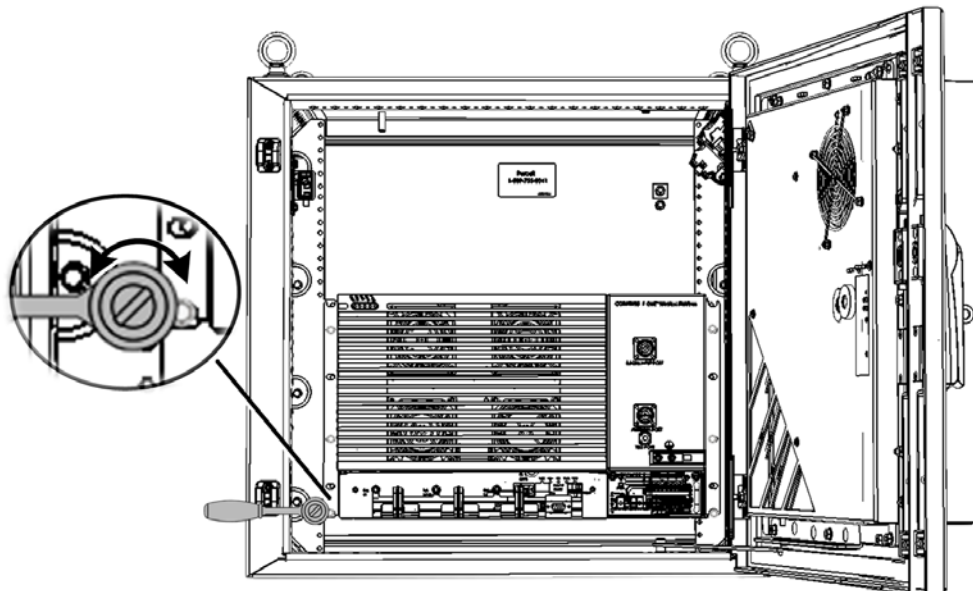

Figure 4-16. Securing MRU to Cabinet Rails
3. Position the bottom half slots of the MRU rack ears onto the protruding screws and tighten the screws using a ratchet wrench. Refer to Figure 4-16.